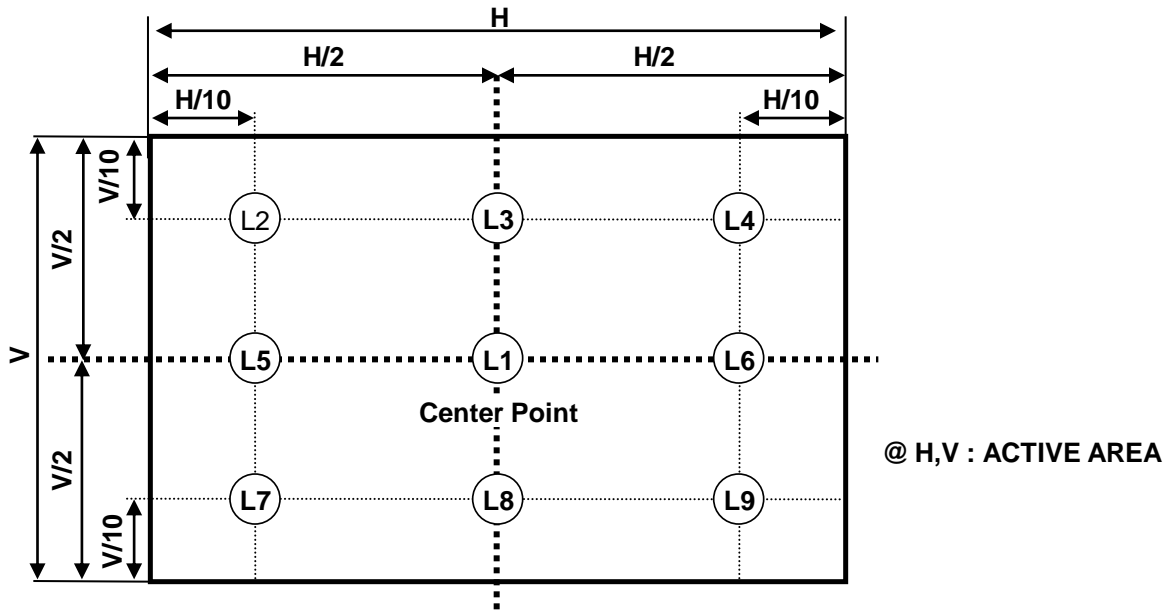

FIG. 3 9 Points for Luminance Measure
2. Surface luminance are determined after the unit has been 'ON' and More than 20 Minute after lighting the backlight in a dark environment at $25 \pm 2^\circ\text{C}$. Surface luminance is the luminance value at center 1-point across the LCD surface 50cm from the surface with all pixels displaying white. For more information see the FIG. 3.
For more information see the FIG. 3.